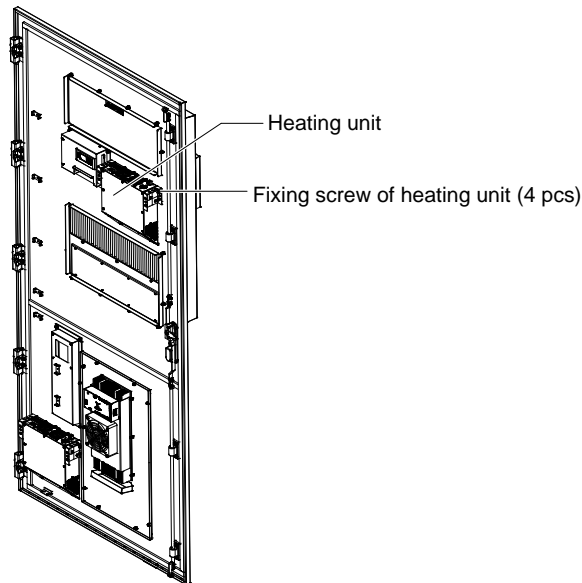

Figure 4-2 Position of heating unit
2. Unplug the power input terminals of the heating unit, and loosen the four fixing screws of the heating unit to remove the heating unit from the cabinet door, as shown in Figure 4-2.
2. Disconnect the power input terminals of the heating unit and loosen the four fixing screws of the heating unit, to remove the entire heating unit from the cabinet door, as shown in Figure 4-2.